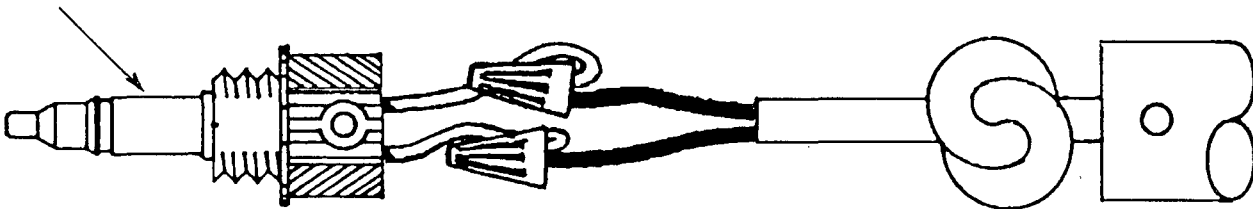

FIG. 3
6. Position the WIRE NUTS as shown in Fig. 3 and insert them into the WIRING CHAMBER along with the base of the JACK ASSEMBLY.